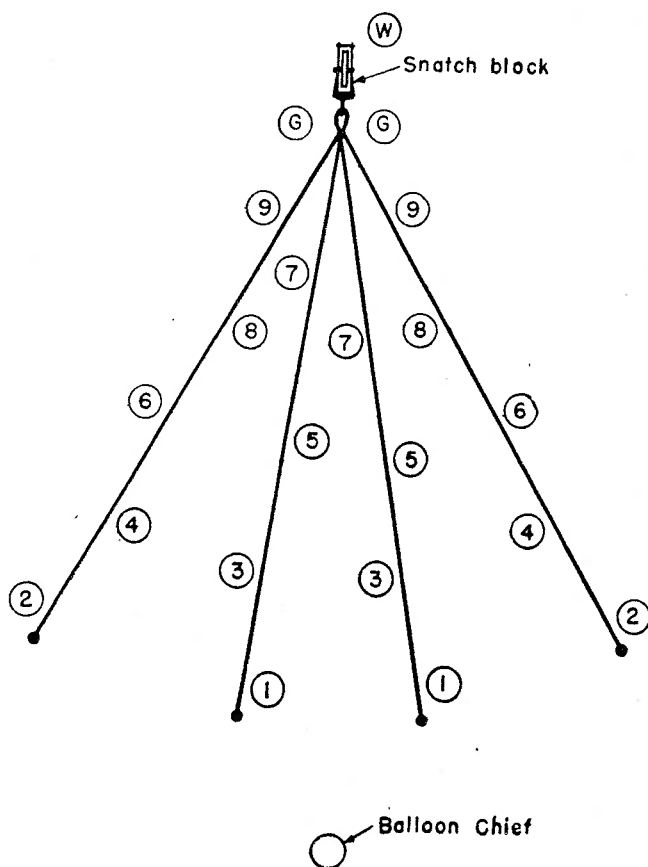

Figure 13.—Position of crew at MAN THE SPIDER, POSTS.
■ 36. **EMERGENCY HAULING DOWN.**—a. When the winch is out of order, a maneuvering spider (fig. 13) will be used to haul down the balloon. A maneuvering spider will also be used to haul down the balloon if the cable becomes entangled in surface obstructions.
c. The crew is formed and at the command **MAN THE SPIDER**, posts, they will take positions at the arms of the spider, as shown in figure 13. Gas workers will hang a sufficient number of sandbags on the spider grommets to equalize the lift of the balloon.